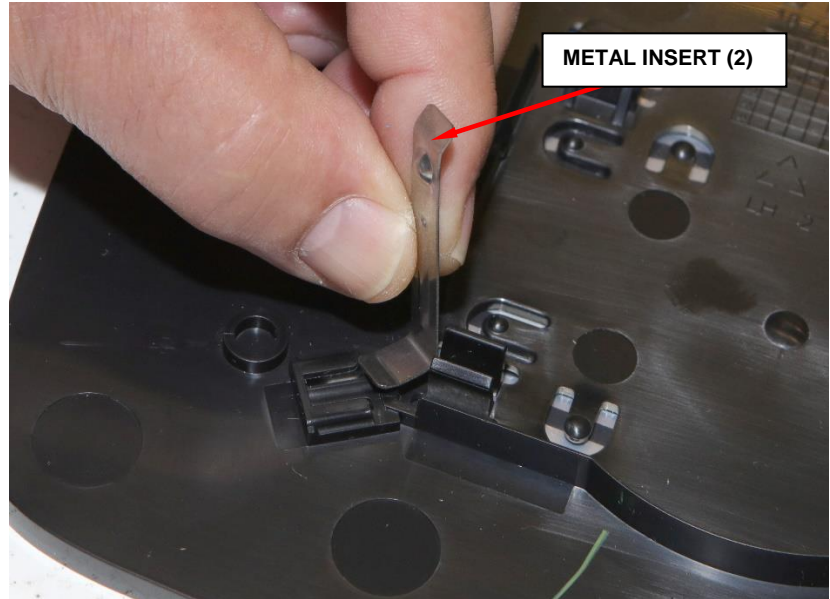

**Figure 4 – Electrical Connection**
5. Separate the lower hinge type clips from the mirror glass assembly (Figure 4).
6. Disconnect the electrical connectors and **DISCARD** the mirror (Figure 4).
2. Connect the electrical connectors (Figure 4).